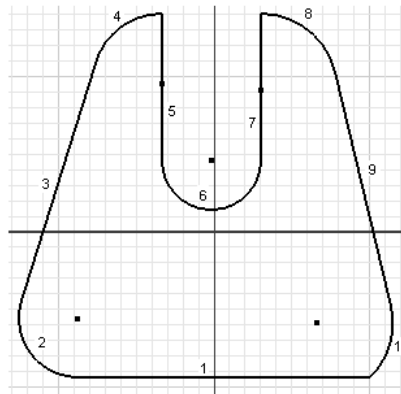

Figure 3-59 Profile with geometries numbered
- a. Start a new metric template and draw the outer loop of the sketch, refer to Figure 3-59.
1. To draw the outer loop, invoke the **Line** tool from **Draw** panel in the **Sketch** tab, refer to Figure 3-59.
The outer loop that you created in the previous step might be different from the one shown in Figure 3-59. You can find the missing constraints by following the next step and apply constraints accordingly.
As evident from Figure 3-59, some of the constraints such as tangent and equal are missing in the sketch. The sketch shown in Figure 3-59 may not be symmetrical and all the lines in the sketch may not be tangent to the arcs. Therefore, you need to add these missing constraints manually to the sketch to complete it. You can choose the **Show Constraint** option from the Marking menu that is displayed when you right-click on an entity.
1. In Figure 3-59, the **Tangent** constraint is missing between line 1 and arc 10. To add this constraint between the line and the arc, choose the **Tangent** tool from the **Constrain** panel of the **Sketch** tab; you are prompted to select the first curve. Select arc 10 as the first curve; you are prompted to select the second curve. Select line 1 as the second curve. Similarly, add this constraint to all places in the sketch wherever it is missing.